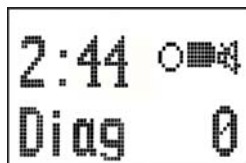

Fig.14
6.20.6 The **Snd** menu item is for volume control. When **Snd 0** is set, all sounds except for clicks while controlling the energy strength will be disabled, and in the **B state** a corresponding indication (Fig.14) will be displayed in the top line of the screen. **Snd 1** is for minimum sound volume, **Snd 2** – for medium volume, and **Snd 3** – for maximum volume.